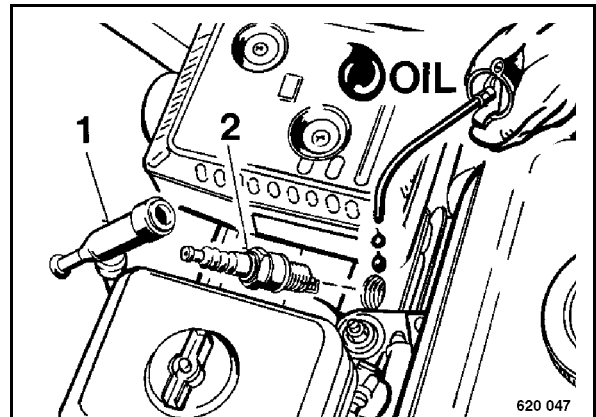

Fig. 63
- Pull off the spark plug socket (1) (Fig. 63) and unscrew the spark plug (2).